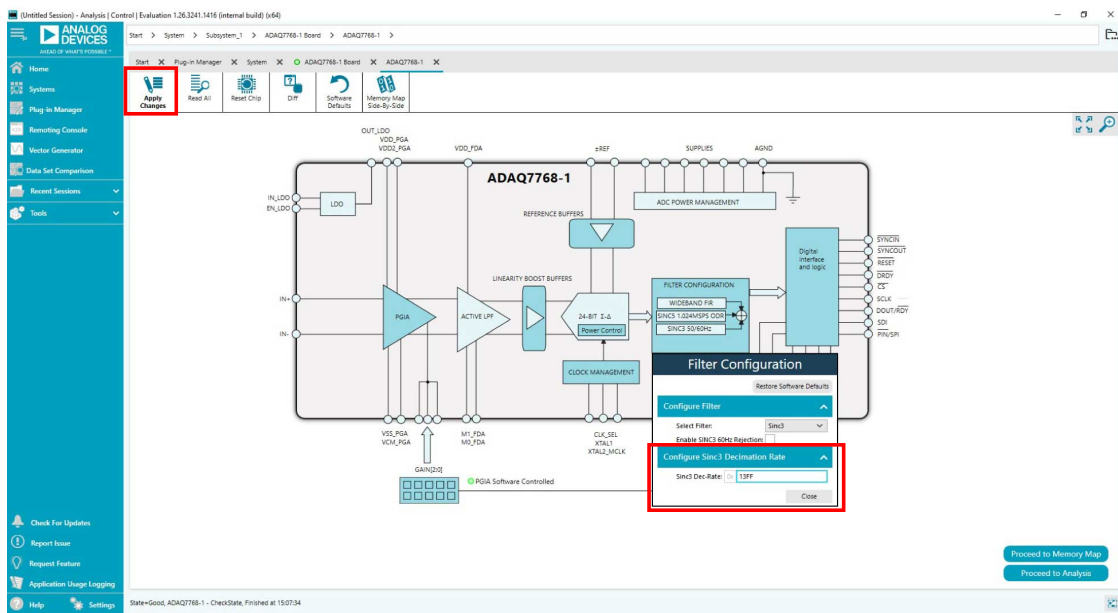
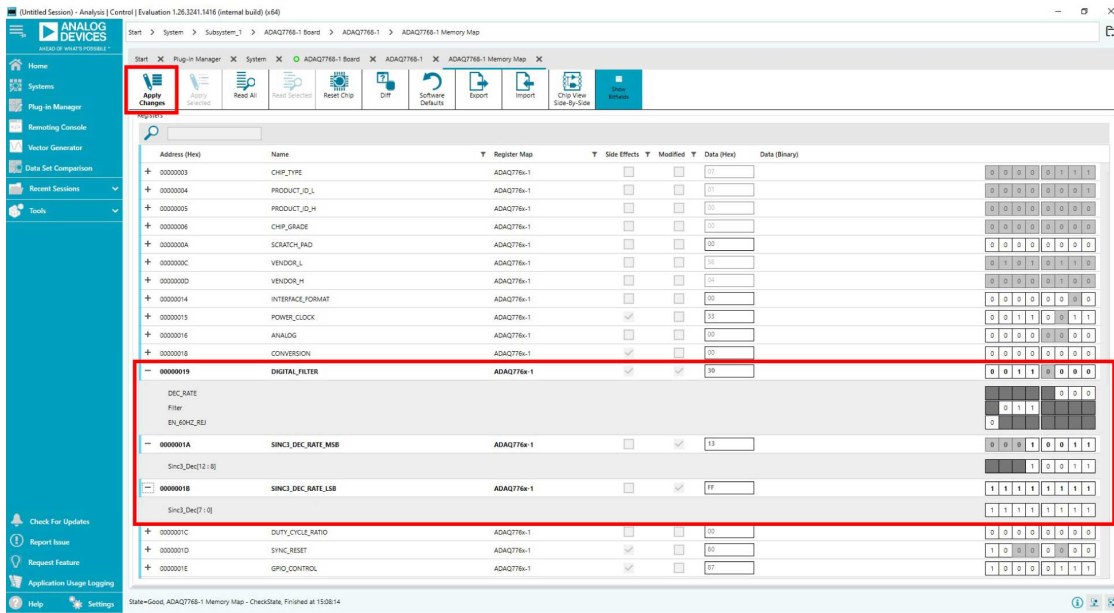

Figure 24. Set the Sinc3 Filter Decimation Ratio
Figure 25. Sinc3 Filter Decimation Ratio Using Memory Map View
3. Configure the Ssinc3 decimation rate by typing '13FF' in the text box near the lower right corner, as shown in Figure 24. This is also reflected in the registers SINC3_DEC_RATE_LSB and SINC3_DEC_RATE_MSB located in the memory map of the ACE software (Figure 25). Then, click **Apply Changes** for this to take effect.